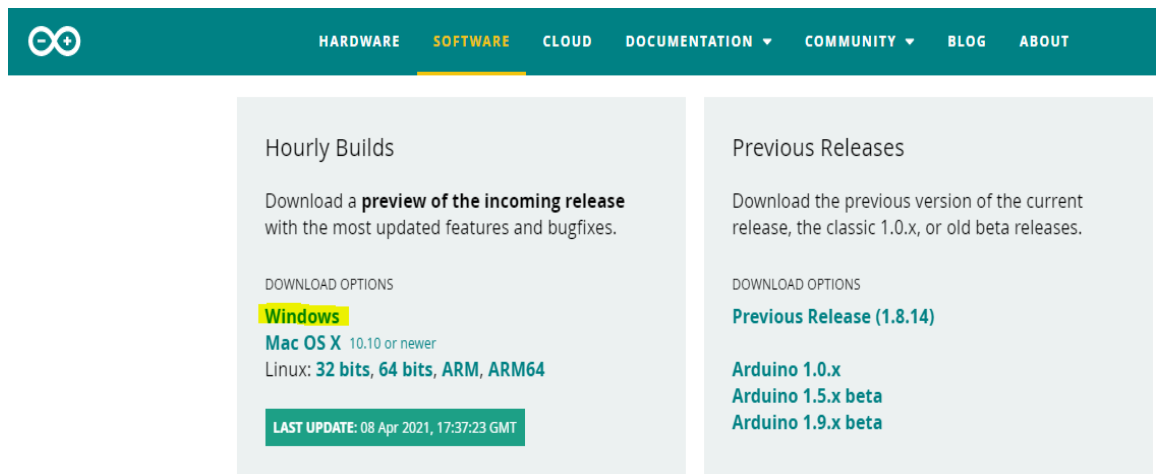

Figure 8 Arduino IDE download options
- Select the windows from the download option as shown in the figure 8 and this will download the Arduino IDE 1.8.15.